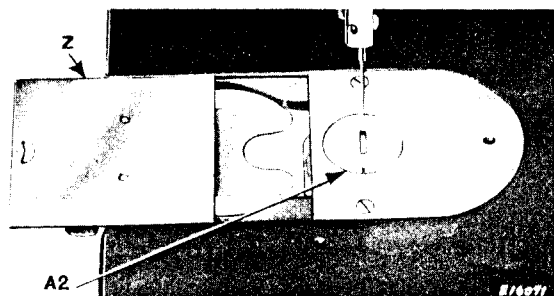

Fig. 19. Showing Bed Slide Withdrawn for Removal or Replacement of Flat Needle Plate
To remove the flat needle plate (A₂, Fig. 19), draw the bed slide (Z, Fig. 19) to the left, as shown in Fig. 19. This will unlock the flat needle plate so that it can be lifted out of the recess in the throat plate.
To replace the flat needle plate (A2), have the bed slide (Z) withdrawn, as shown in Fig.19. Place the needle plate in the recess
Remove the spur plate and place the flat needle plate (A2, Fig.19) in the machine as instructed on page 14. Remove the presser foot and lower the presser bar.
Place the flat needle plate (A2, Fig.19) in position in the machine as instructed on page 14.